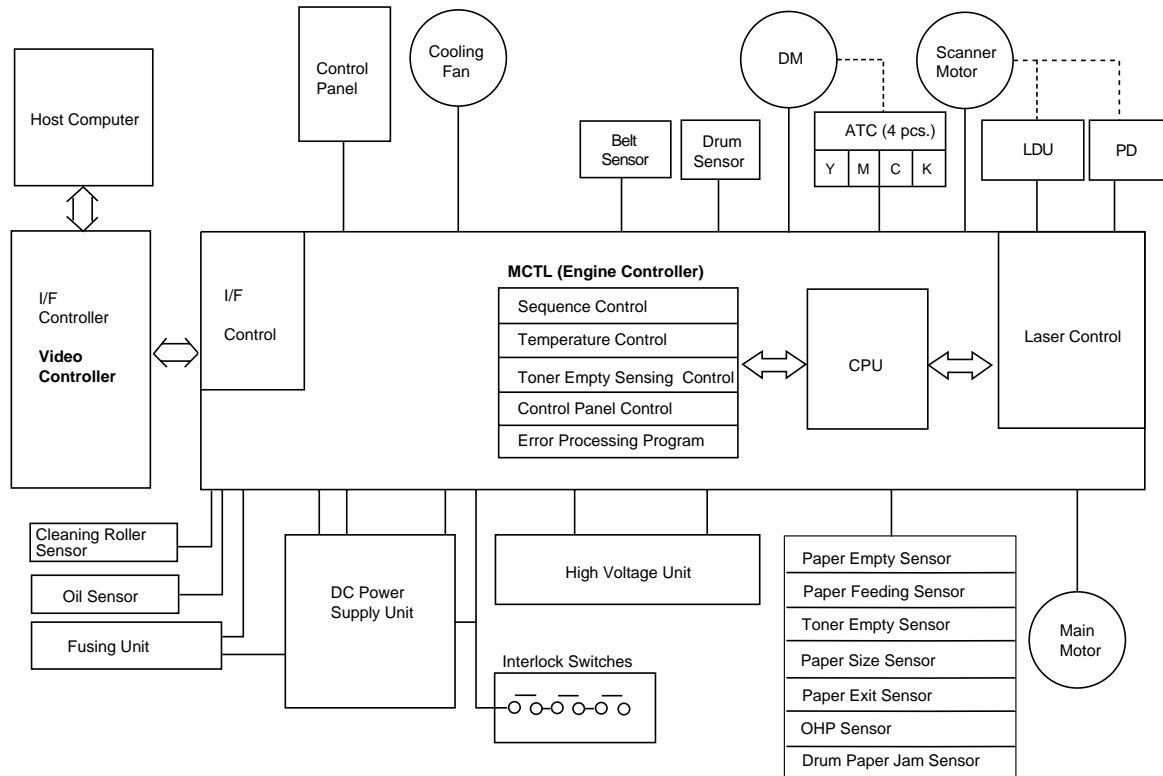

Fig.4-33
(1) Control Block Diagram (Refer to Fig.4-33.)